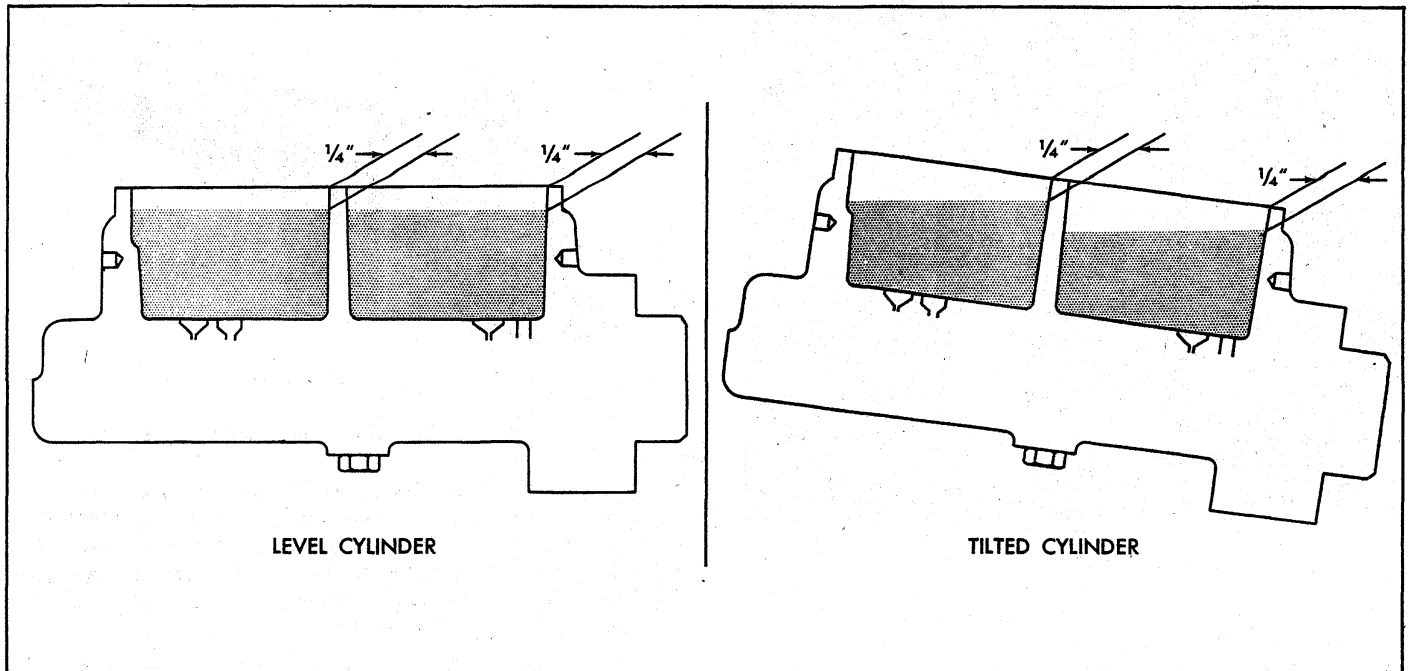

Fig. 8—Correct Main Cylinder Fluid Level
12. Fill master cylinder reservoirs to within 1/4" of reservoir rims as shown in Figure 8.
8. Fill the main cylinder to the levels shown in Figure 8.